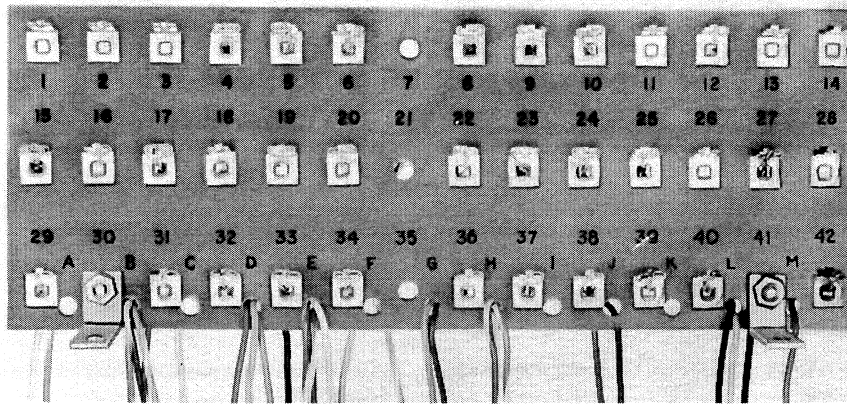

FIG. 2. FRONT VIEW OF THE PARTS BOARD, WITH STAGE 1 WIRING COMPLETED. COMPARE THIS PHOTO WITH FIG. 1 ON THE SHEET OF DIAGRAMS
- Note: As you proceed with each step, compare your work with the drawing in Fig. 1, and the photographs in Figs. 2 and 3.